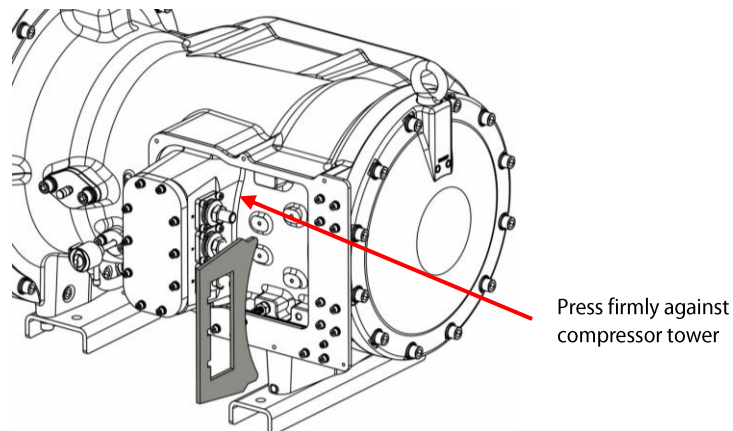

Figure 2 – Insulation Around High-Power Feedthroughs
1. Peel the back of the Tower Power Bolt Insulation **(1)** that will be applied to the compressor tower where the High-Power Feedthroughs are located. Then line it up with large cutout for the High-Power Feedthroughs. Refer to Figure 2 – Insulation Around High-Power Feedthroughs.